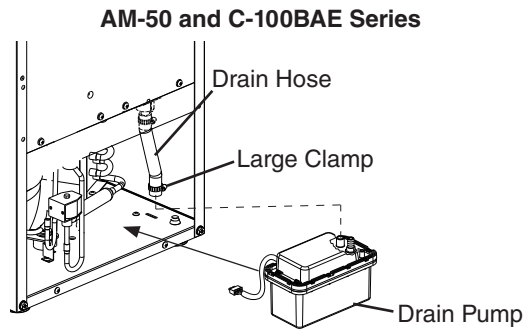

Fig. 5
- 5) Carefully place the drain pump into the open space provided at the rear of the icemaker. The drain pump will overhang the base slightly. See Figs. 5 and 6. If necessary, carefully bend or move the icemaker's copper tubing so that it does not make contact with the drain pump, hoses, or other parts of the icemaker. **NOTICE! Drain pump MUST be level.**
- 6) Connect the drain hose/drain elbow to the drain pump as illustrated in Figs. 5 and 6. Secure the drain hose/drain elbow with the remaining large clamp provided in this kit. **NOTICE! Do not over-tighten the clamp.**